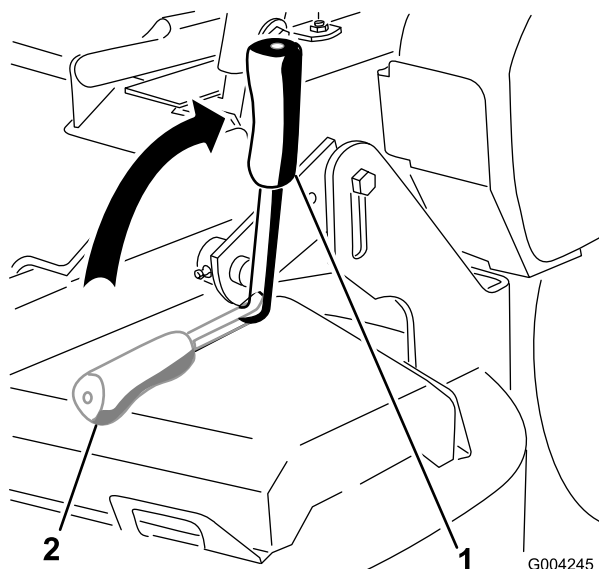

Figure 9
2. Pull up and back on the parking brake lever to set the parking brake (Figure 9). The parking brake lever should stay firmly in the engaged position.
Push forward and down on the parking brake lever to release the parking brake (Figure 9).